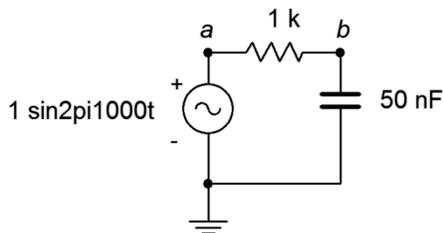

Figure 2.11
16. Determine the impedance of the circuit of Figure 2.11.
17. Determine the impedance of the circuit of Figure 2.11 using a frequency of 10 kHz.
18. For the circuit of Figure 2.11, determine the circulating current and the voltages across each component. Draw a phasor diagram of the three component voltages. Also find the time delay between the voltages of the components.
19. For the circuit of Figure 2.11 using a frequency of 10 kHz, determine the circulating current and the voltages across each component. Draw a phasor diagram of the three component voltages and determine the time delay between the capacitor and resistor voltages.
58. Redesign the circuit of Figure 2.11 using a new capacitor such that the current magnitude from the source is  $100\ \mu\text{A}$ .
60. For the circuit of Figure 2.11, determine a new capacitor such that  $|X_C| = R$ .